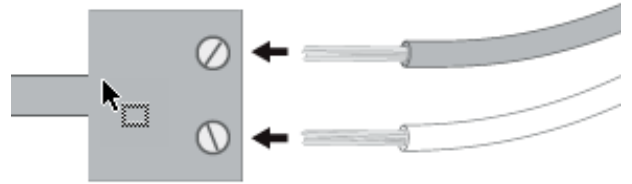

Figure 14
2. Insert one wire end into each port. Tighten screws to secure wires (Figure 14)